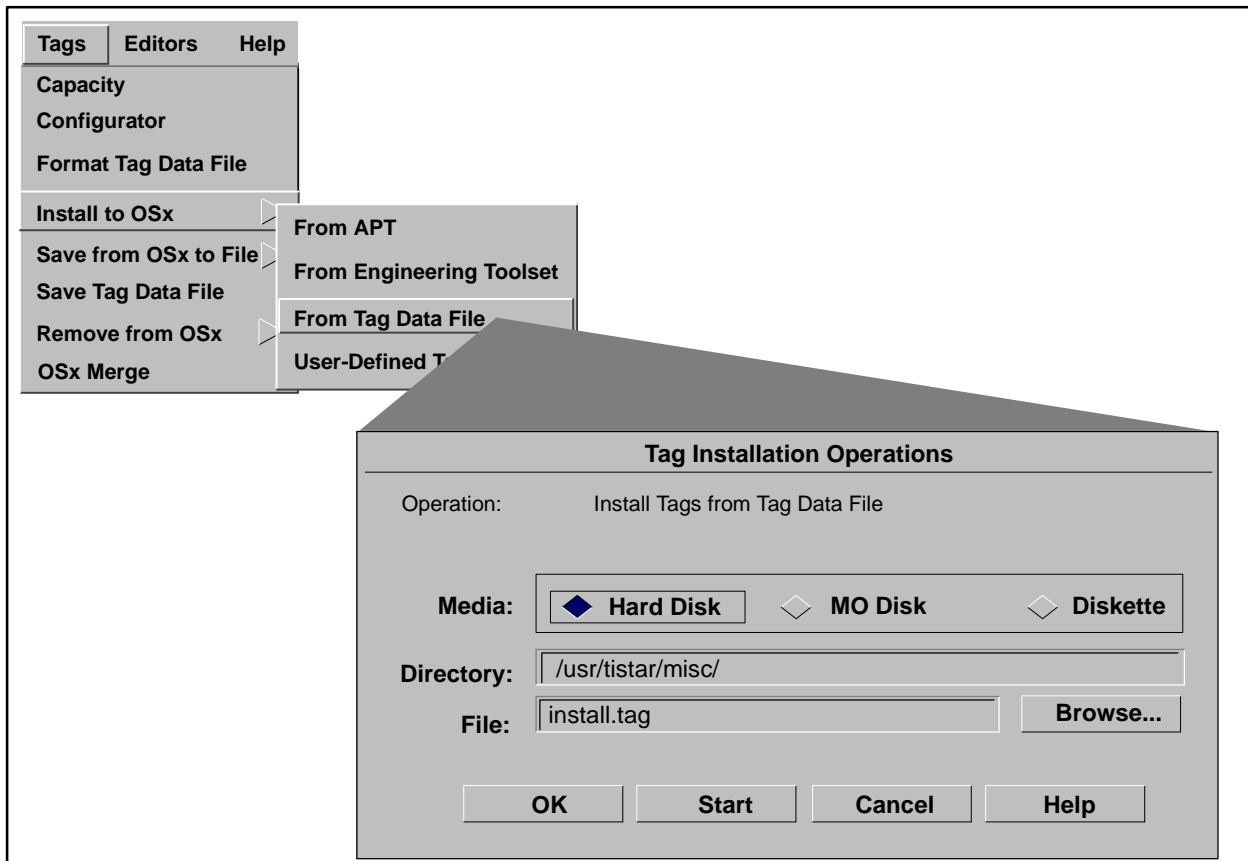

Figure 2-26 Installing Tags from Tag Data File
1. From the OSx main menu bar, select **Tags->Install to OSx->From Tag Data File**. The Tag Installation Operations dialog box appears (Figure 2-26).